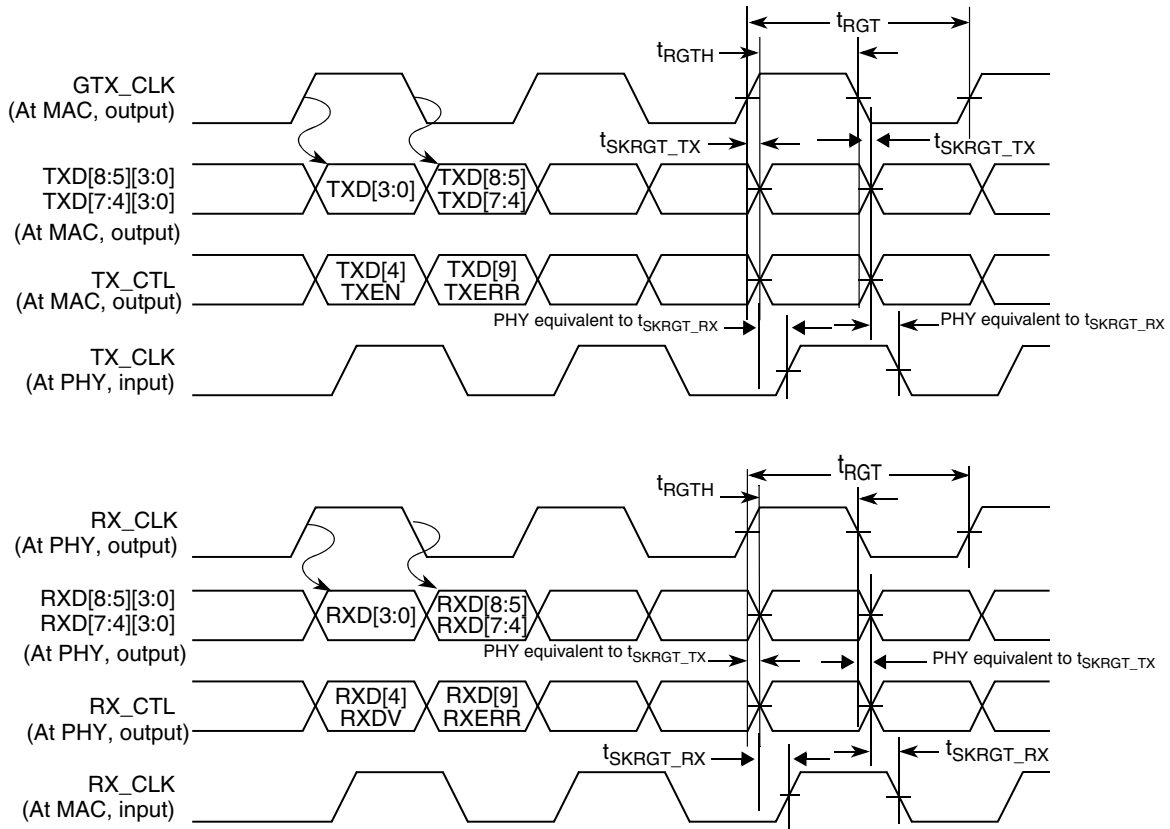

Figure 25. RGMII AC timing and multiplexing diagrams
8. In general, the clock reference symbol representation for this section is based on the symbols RGT to represent RGMII timing. Note that the notation for rise (R) and fall (F) times follows the clock symbol that is being represented. For symbols representing skews, the subscript is skew (SK) followed by the clock that is being skewed (RGT).
9. See Figure 25. on page 102.